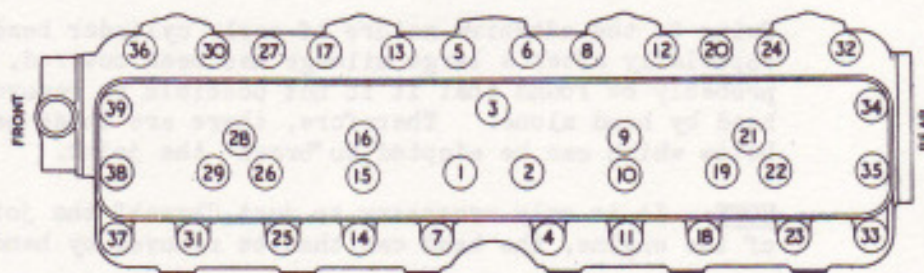

FIG. 9. ORDER IN WHICH THE CYLINDER HEAD NUTS SHOULD BE TIGHTENED.
- (iii) Lower the head squarely and carefully into position over the studs. Refit cylinder head nuts and plain washers and tighten them gradually, in the sequence shown in Fig. 9. Too much emphasis cannot be laid upon necessity for exercising care in tightening down the nuts which secure the head. These should be screwed down very gradually using a Break Back Torque Spanner set to break at 280 lbs./ins. commencing with those at the centre of the head and working outwards towards the two ends.
- (xxv) It is very important that the cylinder head nuts should be tightened again (in the correct sequence as shown in Fig.9) after the engine has done sufficient running to become thoroughly warmed, and then allowed to completely cool off.